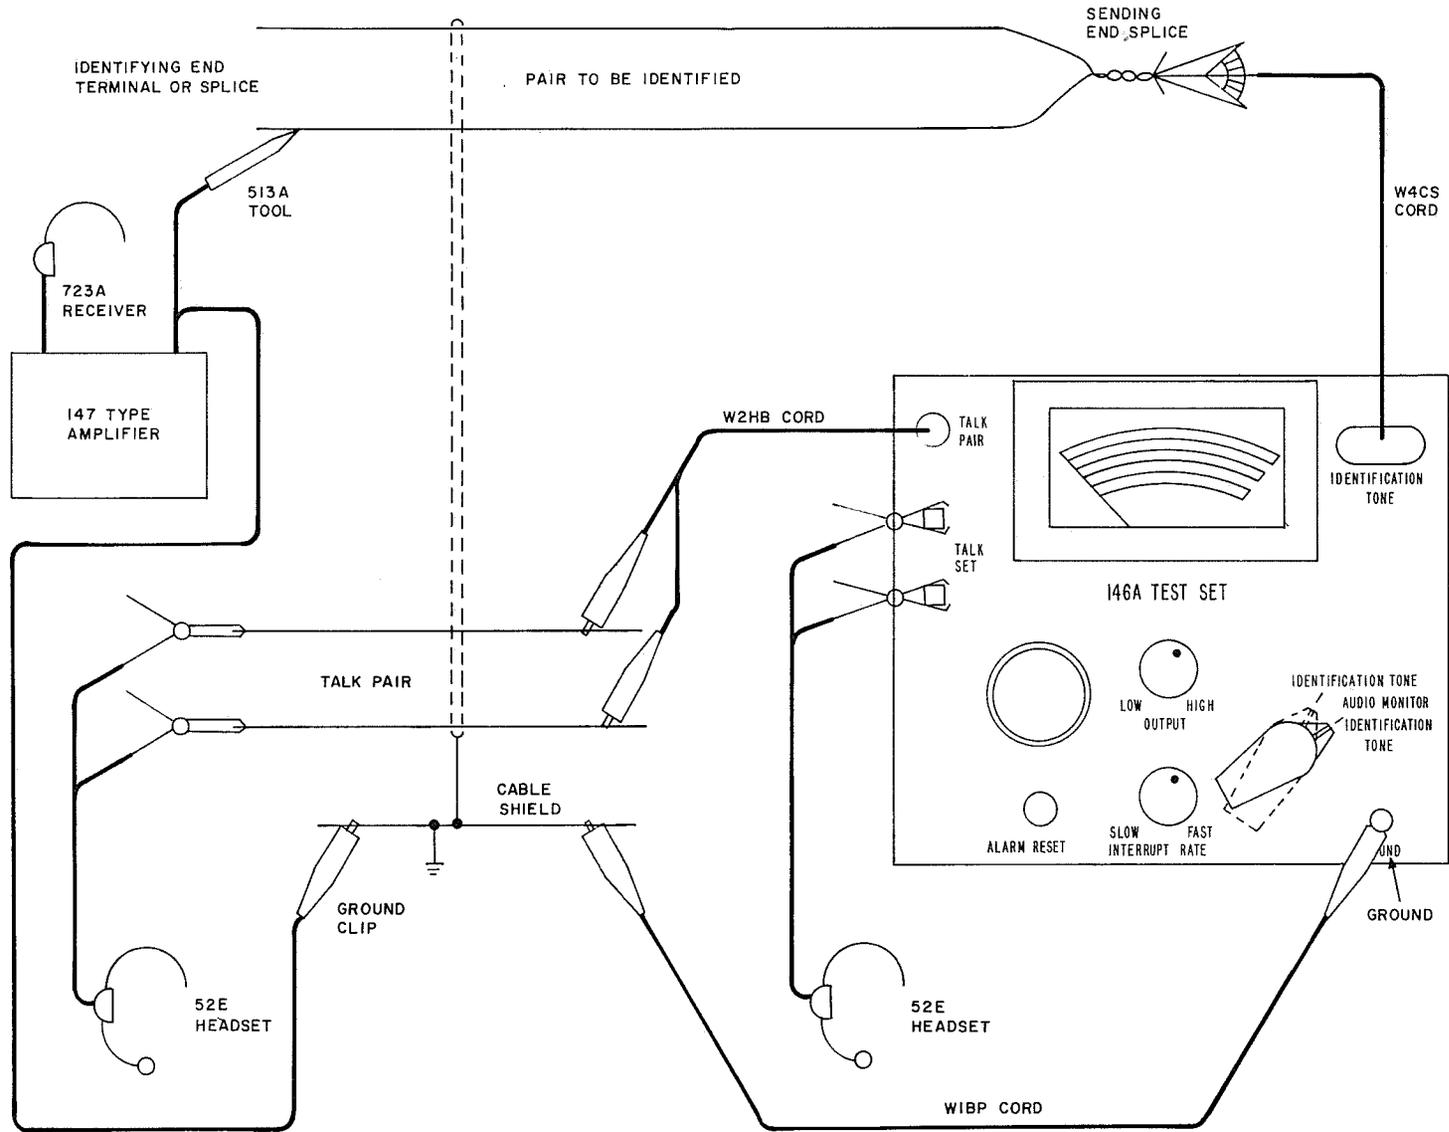

Fig. 10—Wire Identification in Dead Cable
- 5.17 Referring to Fig. 10, connect the test set GROUND to the cable shield using the W1BP cord. Set the FUNCTION switch to AUTO MONITOR IDENTIFICATION TONE. Plug the W4CS cord into the IDENTIFICATION TONE jack. Adjust the OUTPUT control to HIGH. Attach the W4CS cord to the "Tip" and "Ring" of the first pair to be identified. A sound from the alarm device indicates that a proper connection to the pair has been made.